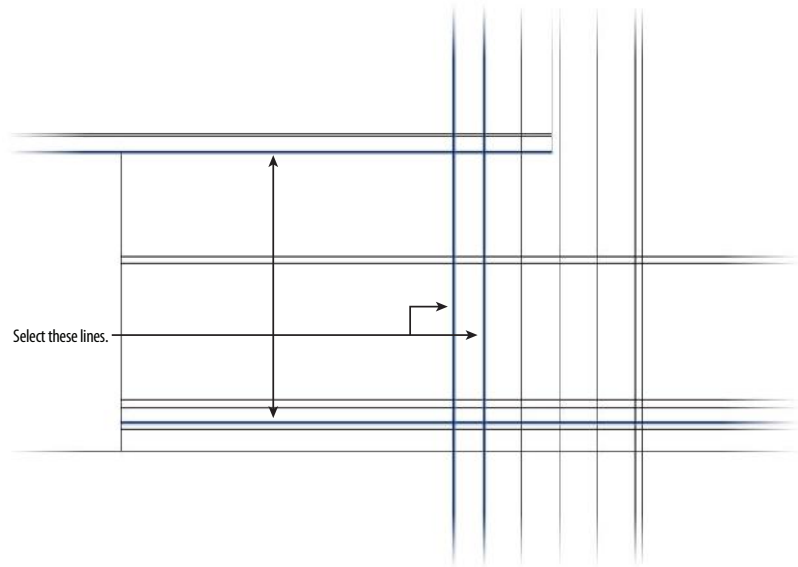

FIGURE 10.20: Select the cutting edges for the TRIM command.
10. Start the TRIM command, and select the two post lines, the soffit line, and the third horizontal deck line (deck surface) from the bottom as the cutting edges (see Figure 10.20).